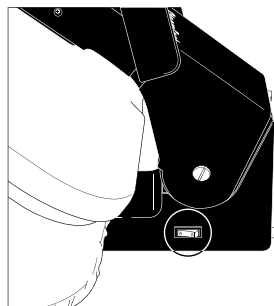

FIGURE 1
1. With Pressing Plate in lifted position, plug power cord into electrical outlet, and set On/Off Switch to "On" position (FIGURE 1).
IMPORTANT: Auto Shut-Off does not mean that power to the unit is totally cut off. Power is always on, and the Power Indicator Light will remain illuminated until On/Off Switch is set to "Off" position (FIGURE 1, page 6).